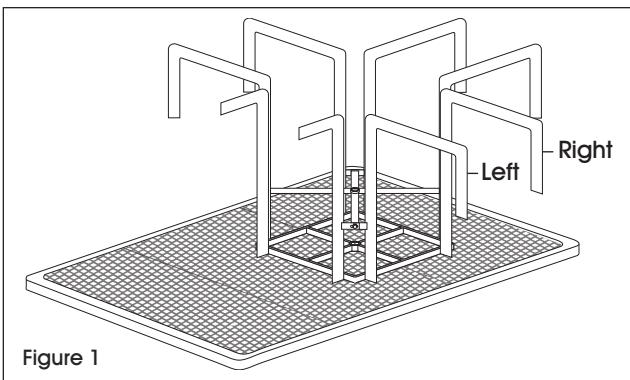

Figure 1
2. Flip the tabletop upside down. Take one leg at a time and loosely attach to the tabletop using one bolt, one washer and one nut. The leg braces are an inside mount. The legs are labeled left and right. Match the legs to the left and right markings on the underside of the table. (See Figure 1)